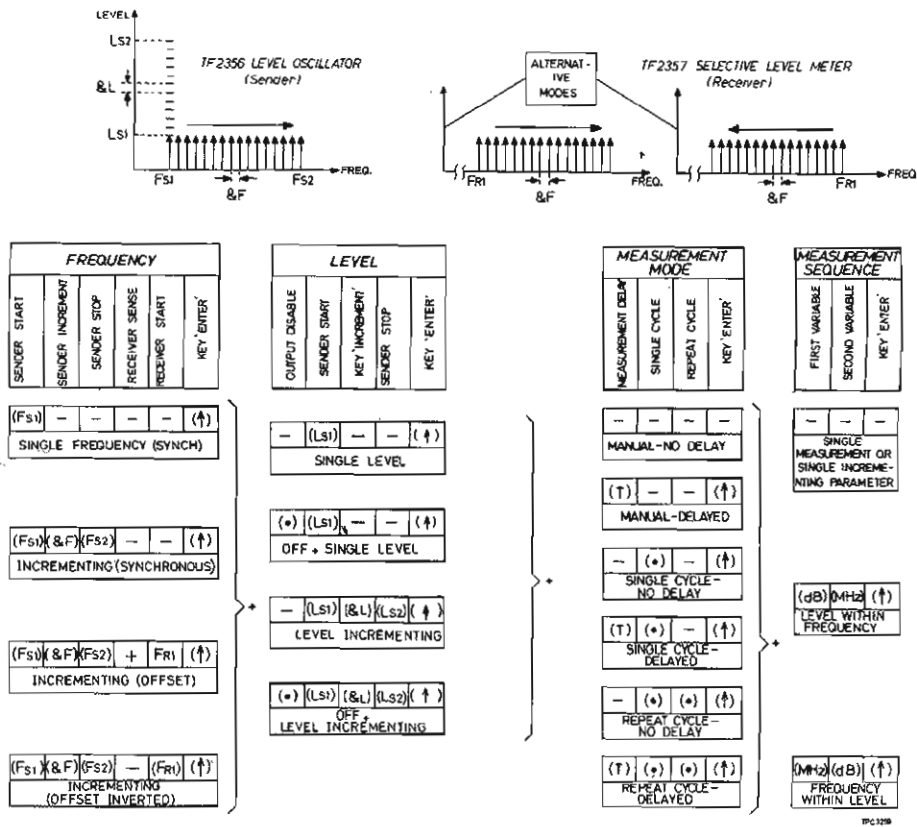

Fig. 9 Data entry format summary
48. All the data entry formats shown in Fig. 9 and discussed under sequence mode operation are applicable to control mode operation with the addition that the receiver frequency is slaved to that of the sender. Thus for Single Frequency and Incrementing conditions, the receiver sets to FS1, FS2 and increments &F in step with the sender. The inclusion of the receiver allows two additional operating conditions to be implemented - Incrementing With Offset and Inverted Incrementing With Offset (see Fig. 9 and below).